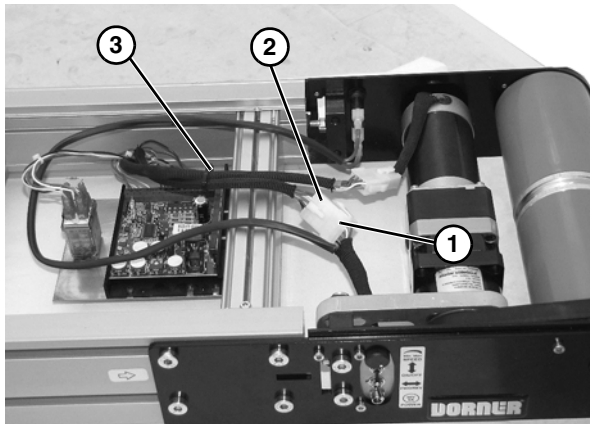

Figure 73
3. Disconnect wiring harness connector (**Figure 73, item 1**) from circuit board wiring connector (**Figure 73, item 2**).
4. Remove tie strap (**Figure 73, item 3**) holding wiring harness to conveyor frame.